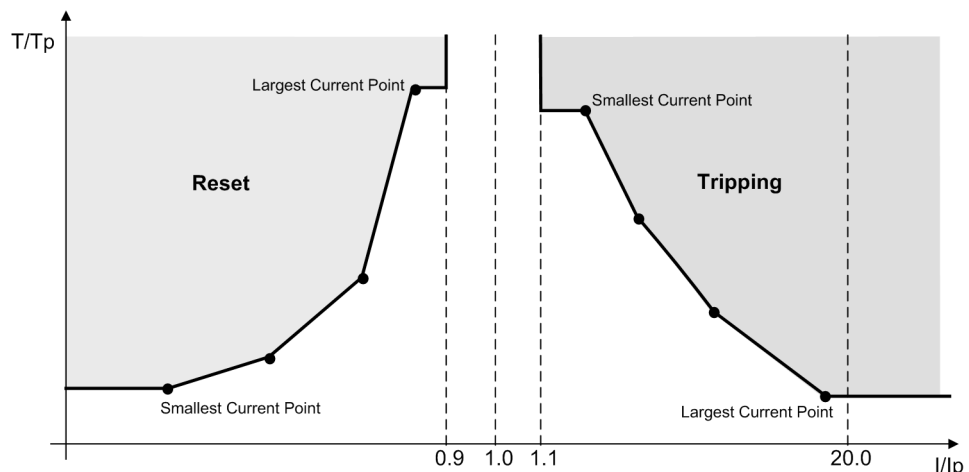

Figure 2-76 User-specified characteristic — example
- Currents smaller than the current value of the smallest characteristic point do not lead to a prolongation of the tripping time. The pickup characteristic (see Figure 2-76, right side) goes parallel to the current axis, up to the smallest characteristic point.
- Currents greater than the current value of the largest characteristic point do not lead to a reduction of the tripping time. The pickup characteristic (see Figure 2-76, right side) goes parallel to the current axis, beginning with the largest characteristic point.
- Currents greater than the current value of the largest characteristic point do not lead to a prolongation of the dropout time. The dropout characteristic (see Figure 2-76, left side) goes parallel to the current axis, up to the largest characteristic point.
- Currents smaller than the current value of the smallest characteristic point do not lead to a reduction of the dropout time. The dropout characteristic (see Figure 2-76, left side) goes parallel to the current axis, beginning with the smallest characteristic point.